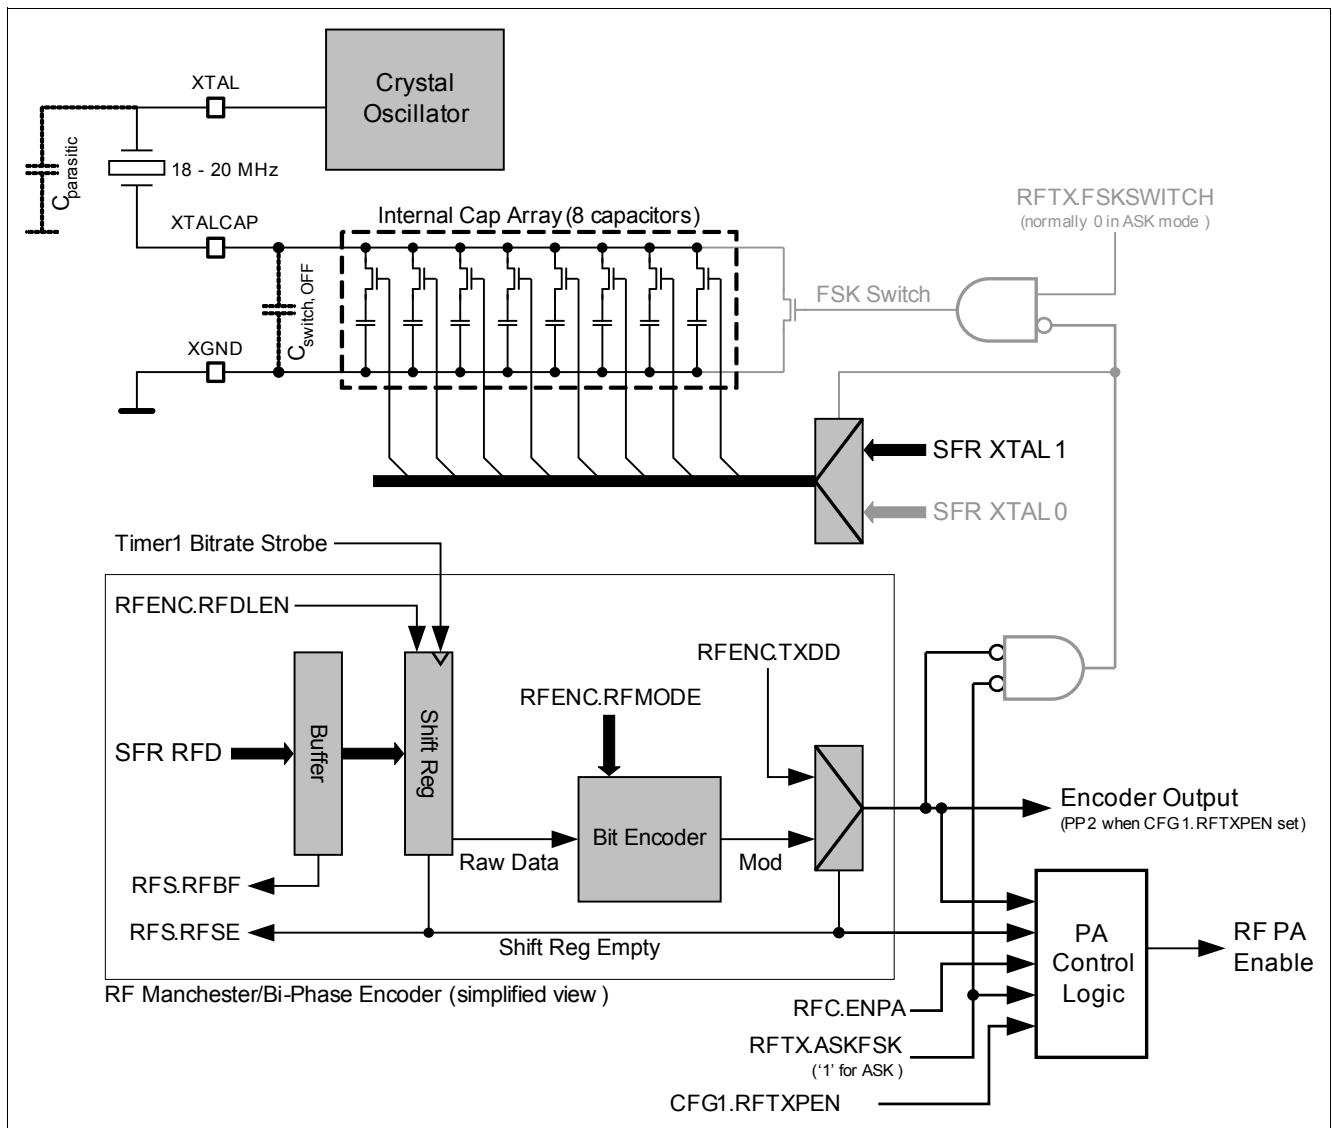

Figure 12 ASK using the internal capacitor
- In the configuration shown in **Figure 12** the internal capacitor array is used. The desired capacitor value must be selected by using SFR XTAL1 to establish the RF carrier frequency. The exact value used should be verified by module level testing.